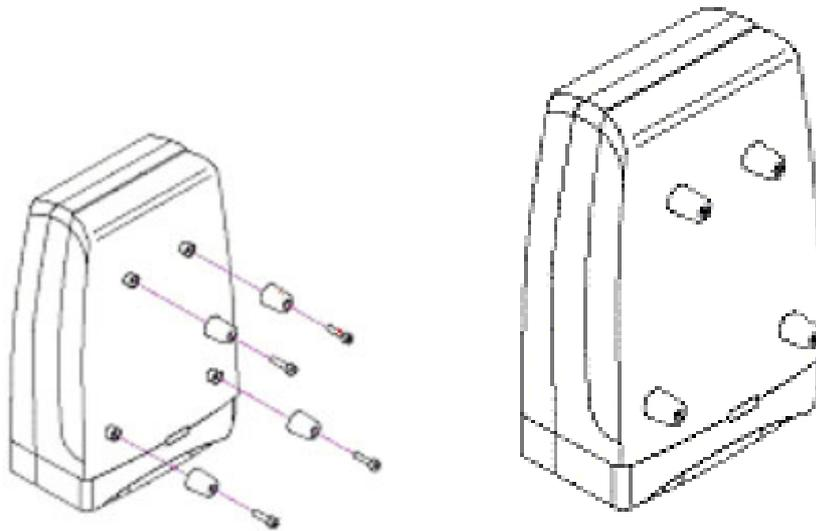

Figure 12-3: IDR horizontal desk mounting using supplied rubber pads and tapping screws
- Secure the rubber pads to the posts provided on the rear of the IDR using four self-tapping screws. See Figure 12-3.